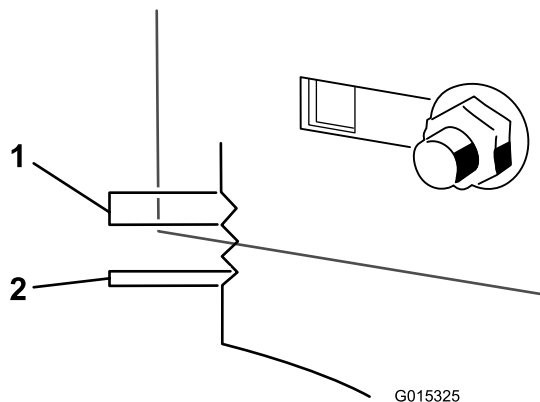

Figure 55
9. Use the notches on the welded bracket to measure the amount of adjustment. Each notch surface is equivalent to 0.25 inch, while a single side is 0.125 inch (Figure 55). Adjust the height of the mower deck to the desired height.